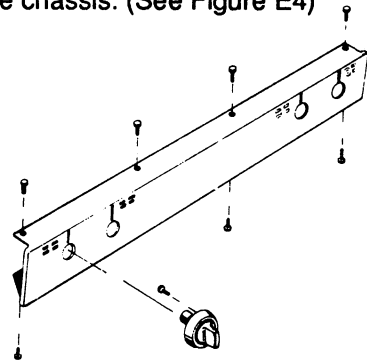

Figure E4
5. Remove the three screws holding the control panel to the range chassis. (See Figure E4)